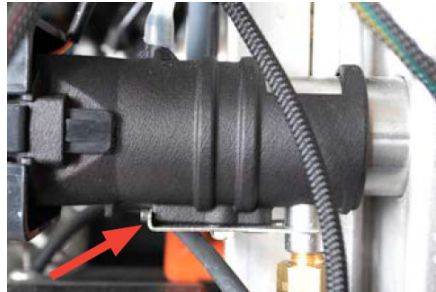

Figure 19
- 4) The blower assembly twists onto the burner and is held in place with a bracket (see Figure 19).